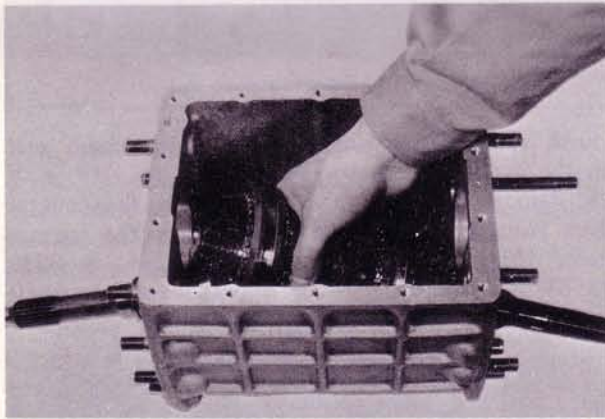

Fig. 7-7 Removing main shaft and gears assembly
32. Separate the main shaft from the main drive shaft and remove the main shaft from the case as shown in Fig. 7-7. Remove the fourth synchronizer ring and needle bearing from the main drive shaft and gears assembly.